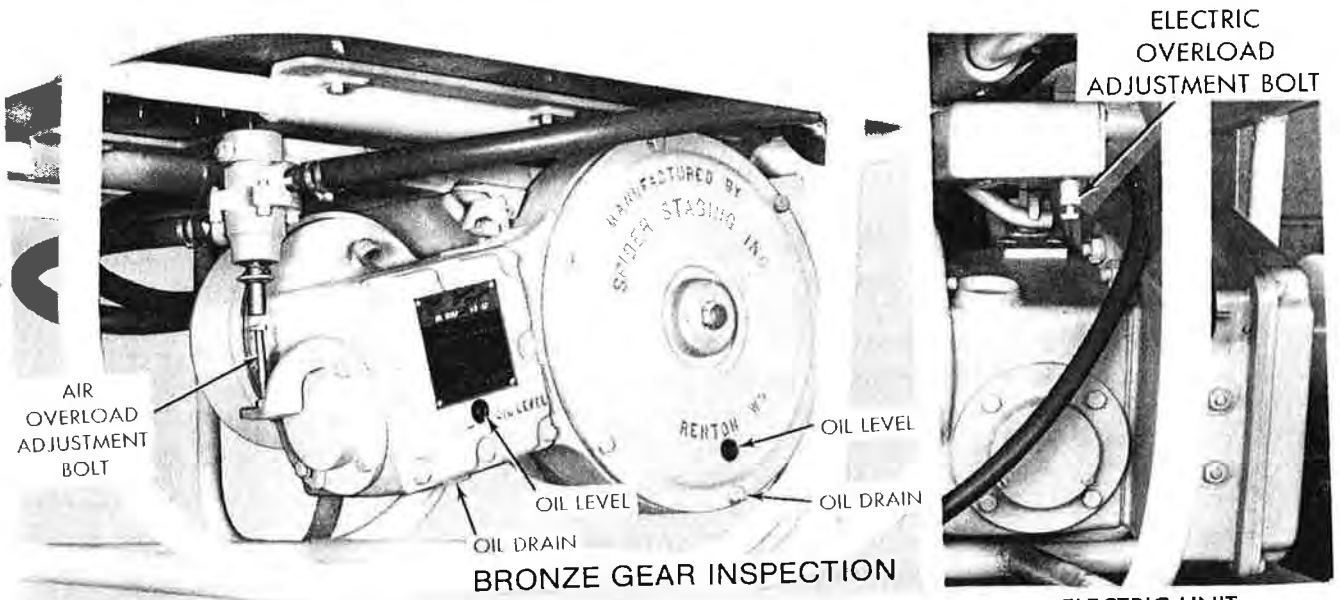

Figure 14 AIR UNIT
**Transmission (Figs. 14, 15, 16)**
**Overload Shut Offs (Figs. 14 & 15)**